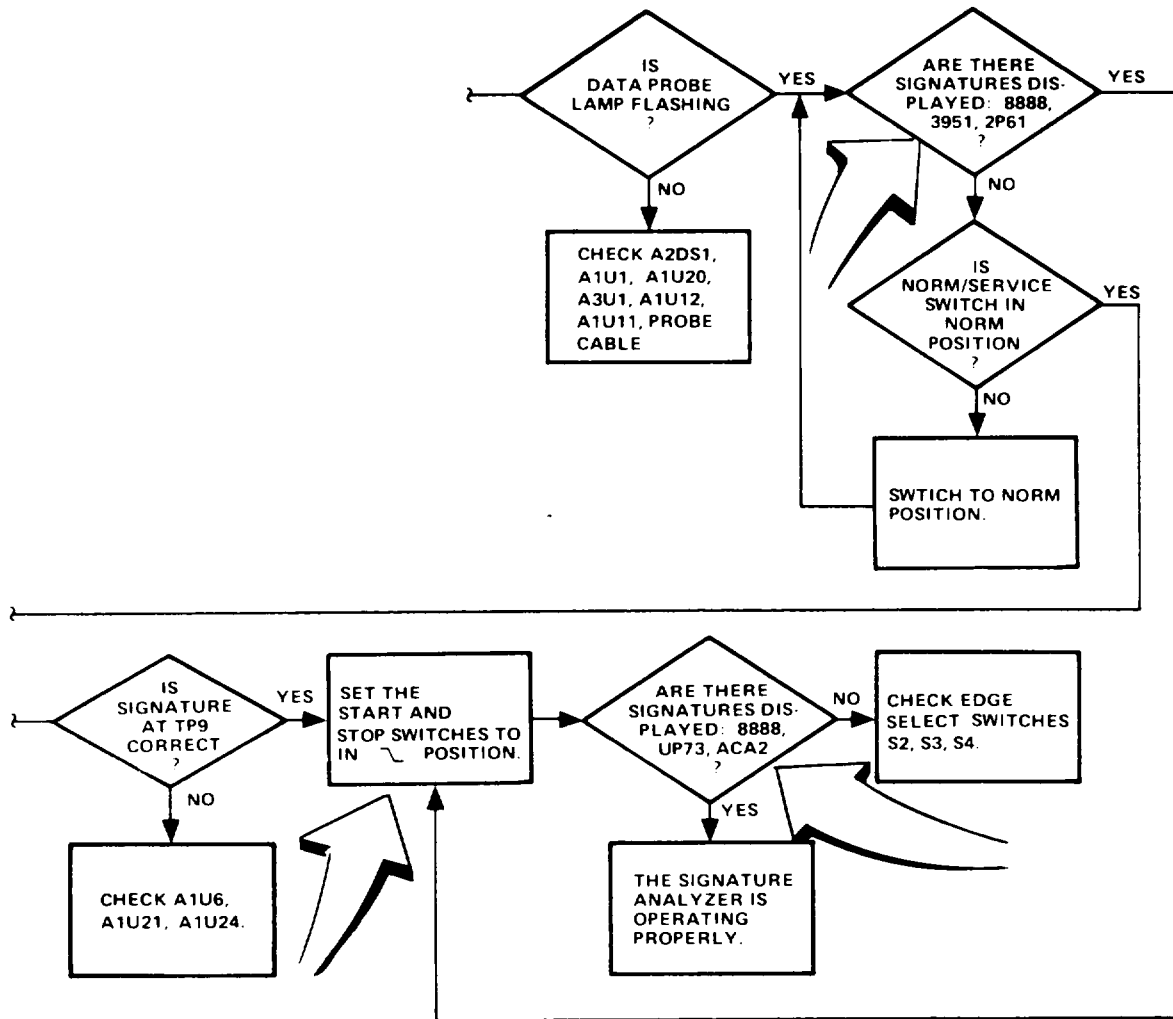

FIGURE 1. FLOWCHART CORRECTIONS
- Change flow chart in three places to agree with the partial diagram shown in Figure 1.